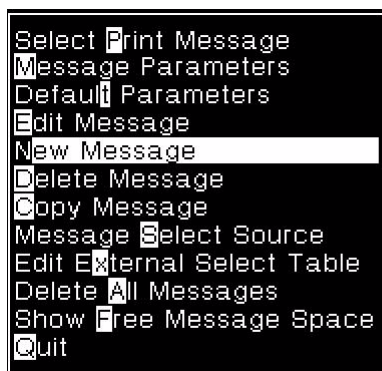

Figure 5-1: Messages Menu Options
- 2 Select the *New Message* option, using the  arrow key (Figure 5-1).